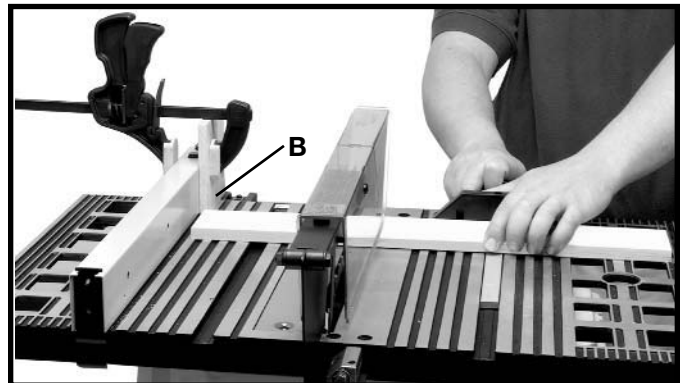

Fig. 43B
When cross-cutting a number of pieces to the same length, a block of wood (B) Fig. 43B, can be clamped to the fence and used as a cut-off gage. It is important that this block of wood always be positioned in front of the saw blade. Once the cut-off length is determined, secure the fence and use the miter gage to feed the work into the cut.